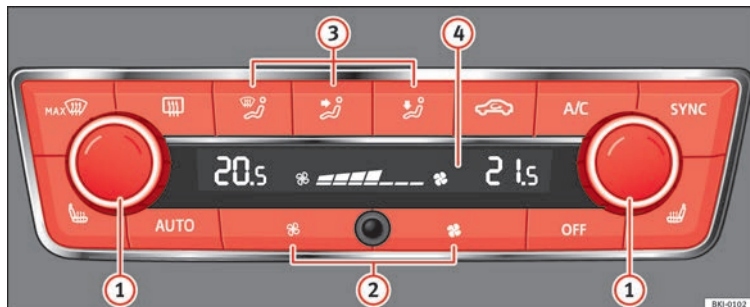

Fig. 172 Climatronic: controls.
- Adjust fan power to zero » Fig. 172 ② or press the **OFF** button.
- Press the button **AUTO** » Fig. 172.
- When you switch on the ignition, control **①** » **Fig. 172** can be used to set the required interior temperature.
- Press the button **MAX** » **Fig. 172**.